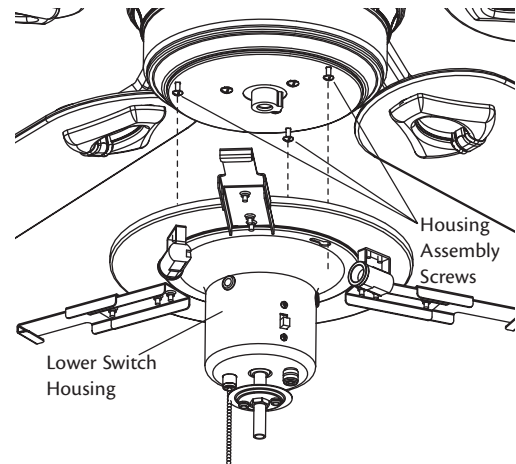

Figure 26 - Installing the light fixture
1. Install three #6-32 housing assembly screws into the motor housing as shown in Figure 26. Do not completely tighten the three screws.